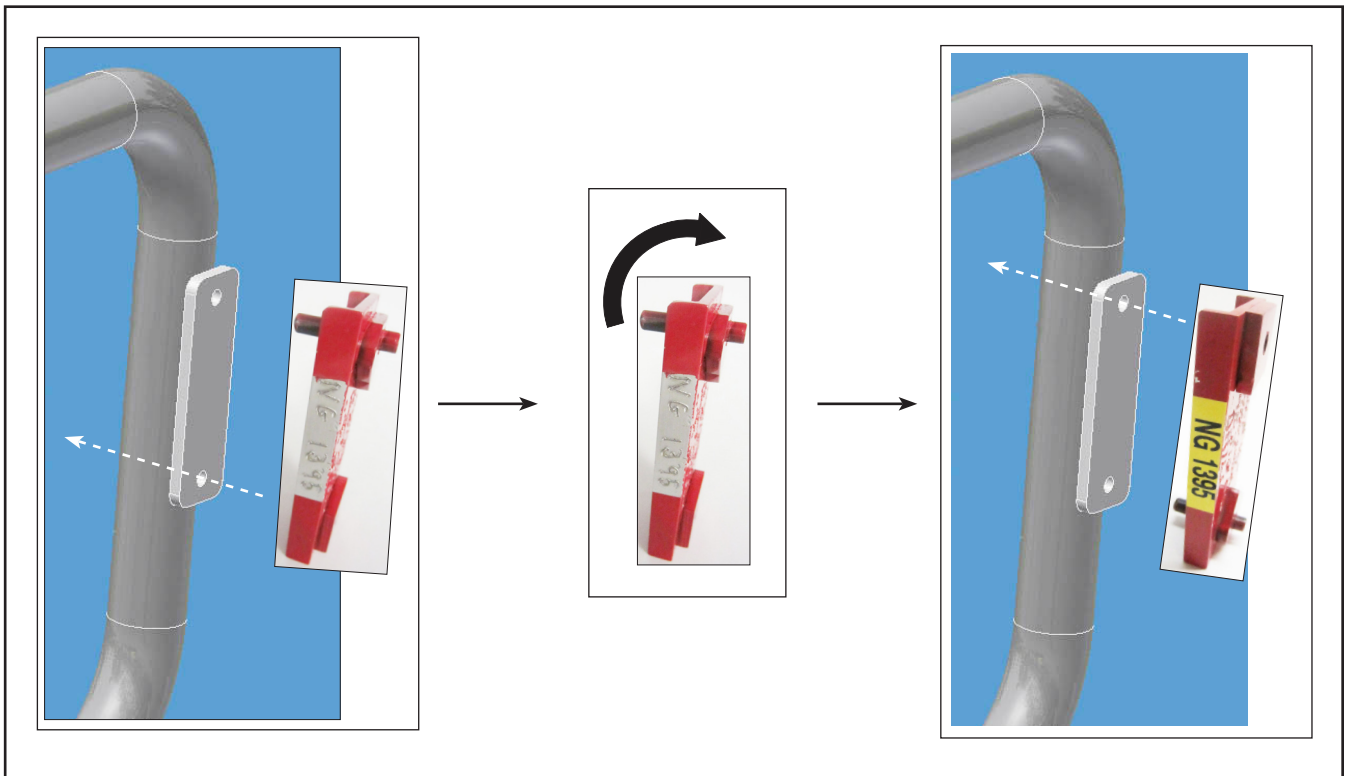

Figure 3 - Through the Handrail: Drill the Bottom Hole, Flip the Jig, and Drill the Top Hole
- 1.3. With a 1/4" (6.35mm) drill bit, by going through the holes that already exist, drill two new holes on the exact opposite side of the handrail. Use the drilling jig NG1395 as shown in Figure 3 to drill the hole at the bottom. Then, flip the jig over to drill the hole at the top.